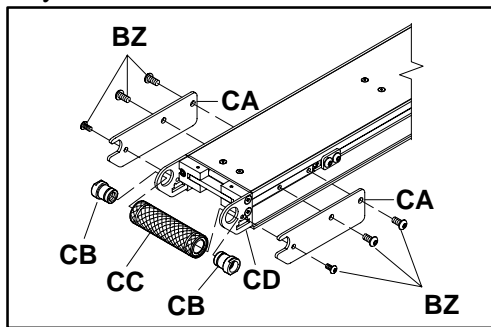
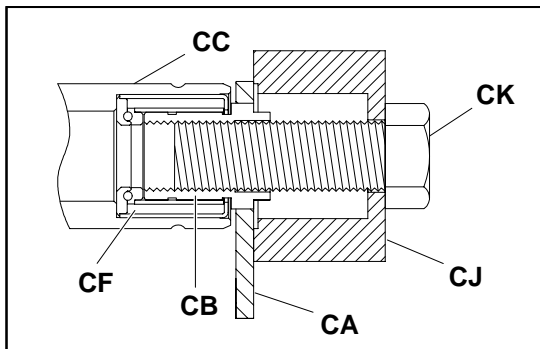

Figure 35
Figure 36
- Remove the tail cover plate screws (BZ of Figure 35) and tail cover plates (CA) on both sides of the conveyor.
- Position bearing anvil/sleeve removal tool (CJ of Figure 36), part number 25-09, over the retaining sleeve (CB of Figure 35 or Figure 36).
- Insert threaded bolt (CK of Figure 36), part number 906-278, through the bearing anvil/sleeve removal tool (CJ) and into the retaining sleeve (CB).
- Tighten the bolt (CK) until the retaining sleeve (CB) is free of the tail pulley plate (CA).
- Remove the retaining sleeve (CB) from the bolt (CK) and repeat for the other side.
- Remove the pulley (CC).